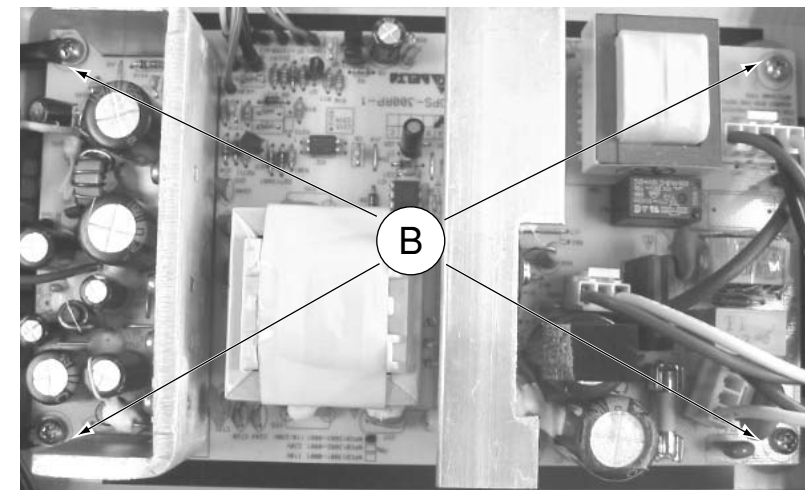

Figure 5
- 1) Loosen 4 screws "B" at the top of the Power Board as shown in figure 5